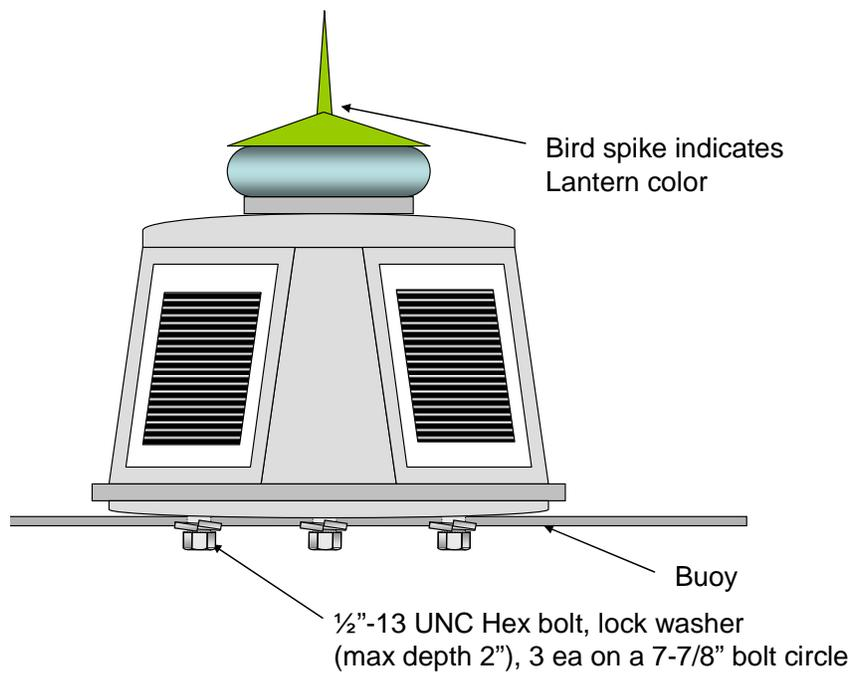

Figure 3-7
- b. On steel buoys, loosely install one ½" stainless steel threaded rod or a bolt with the head removed to act as a locating pin for the lantern mount on top of the radar reflector. Install the lantern in one of those holes and swing the base until the other two holes are lined up. Insert two ½" stainless steel bolts with lock washers to secure the lantern. Remove the treaded rod and insert a ½" bolt, or install a lock washer and nut on the rod. Tighten all fasteners. See Figure 3-7.